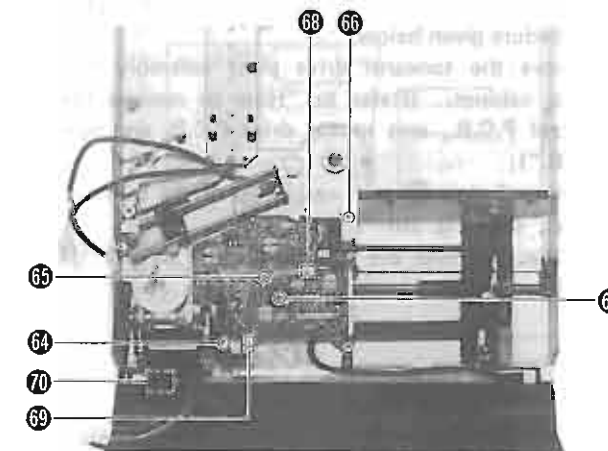

Fig. 17
6. Remove the setscrews ④ ~ ⑥ of the tonearm drive plate assembly, and disconnect the lead wires from the clamber. (See Fig. 17)
7. Remove the setscrew ⑦ of the arm motor drive P.C.B. the connector ⑧ (CN303) and ⑨ (CN301); then the arm motor drive P.C.B. can be removed. (See Fig. 17)
8. When removing the logic control P.C.B. completely, remove the body cover and two connectors (CN201, CN202) of the drive P.C.B.; detach the bushing ⑩ of the upper cabinet; then the logic control P.C.B. can be removed. (See Fig. 17)